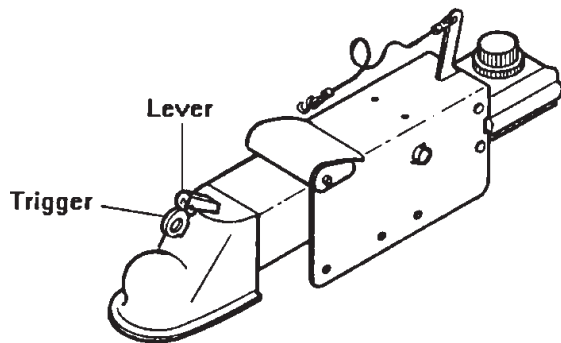

Figure P4: 238 Model Surge Brake Actuator & Coupling Assembly
On the Surge Brake Actuator and Coupling Assembly shown in Figure P4, lift the release handle to unlock the coupler. The optional locking pin or a padlock may be inserted in the locking lever hole to secure the trailer. Refer to Section P-3 Operation for additional information on couplers and hitching to the tow vehicle.
2. Hold release handle in open position. See Figure P4.